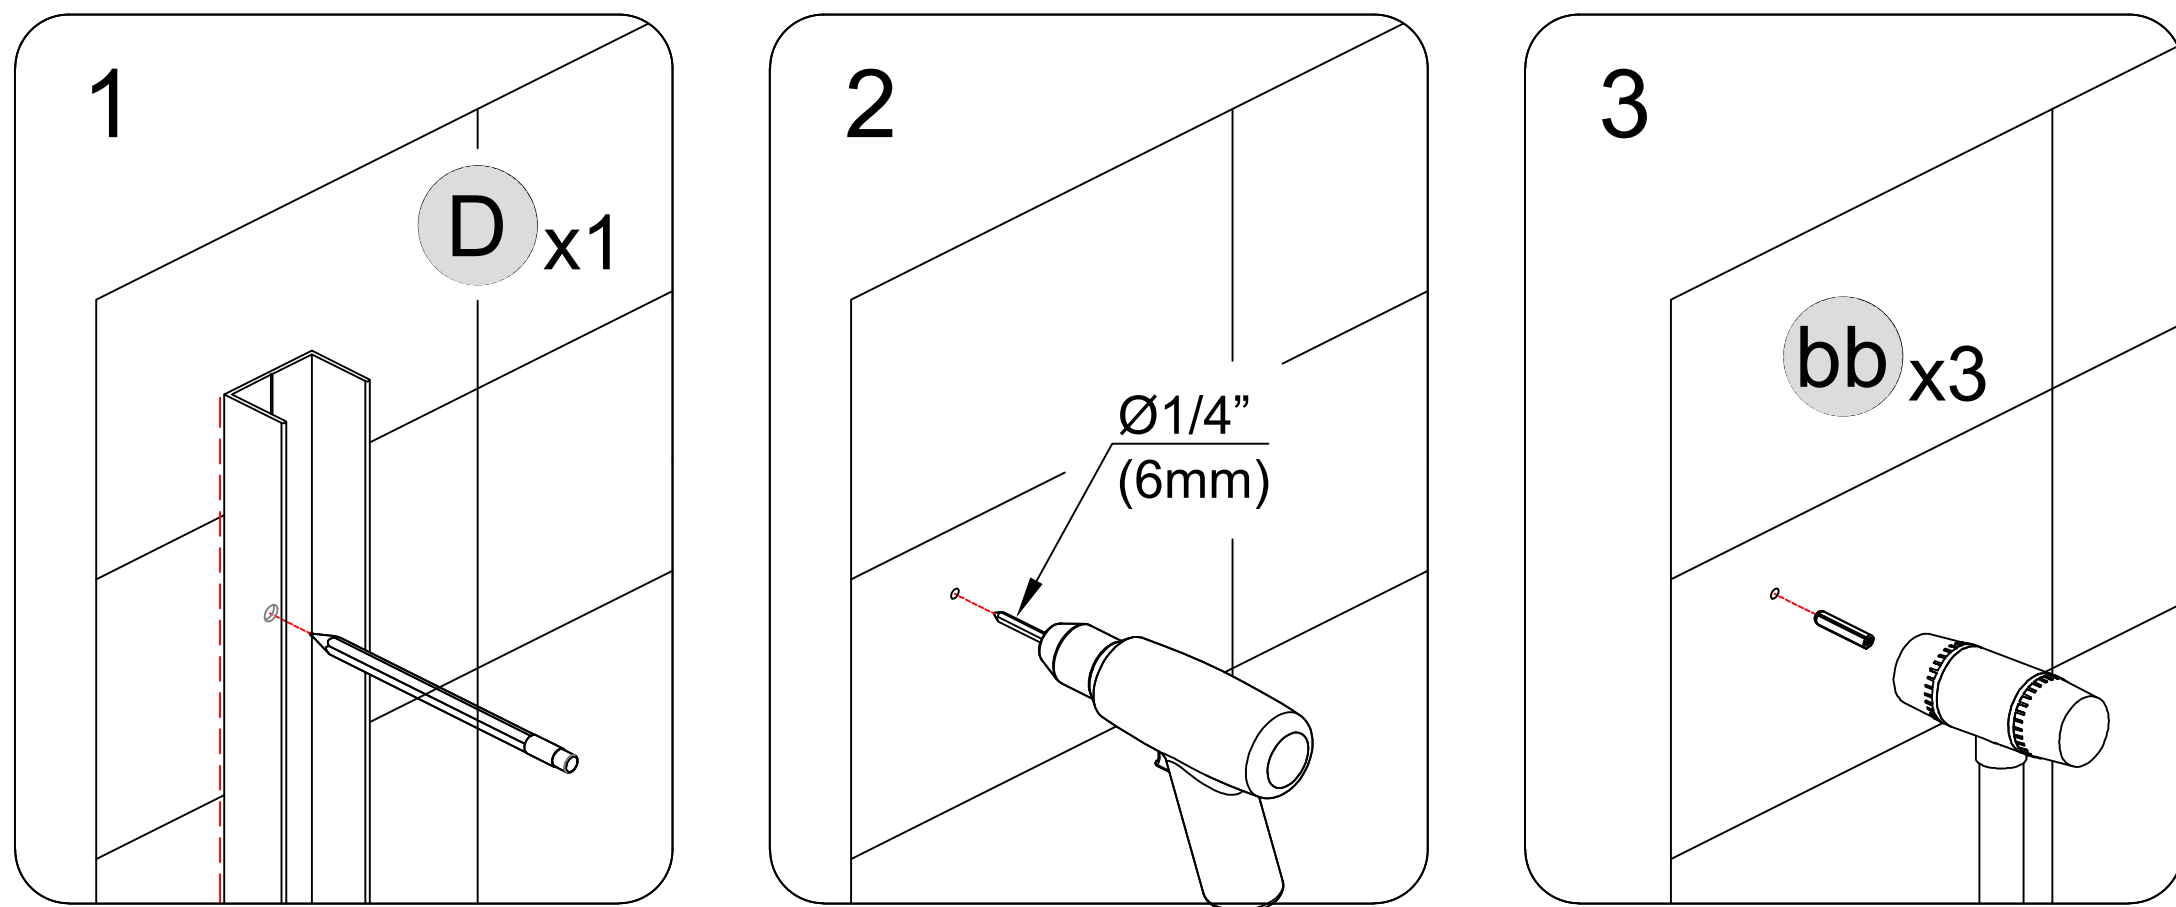

Fig 8
Move the frame assembly aside and remove the **Wall Jamb (D)**. Put **Wall Jamb (D)** back to the position marked in the previous step, and then mark the required hole. Drill the holes into the walls using a $\text{Ø}1/4''$ (6mm) drill bit and insert the **Wall Anchors (bb)**. Repeat this process for the opposite wall jamb. (Fig 8)